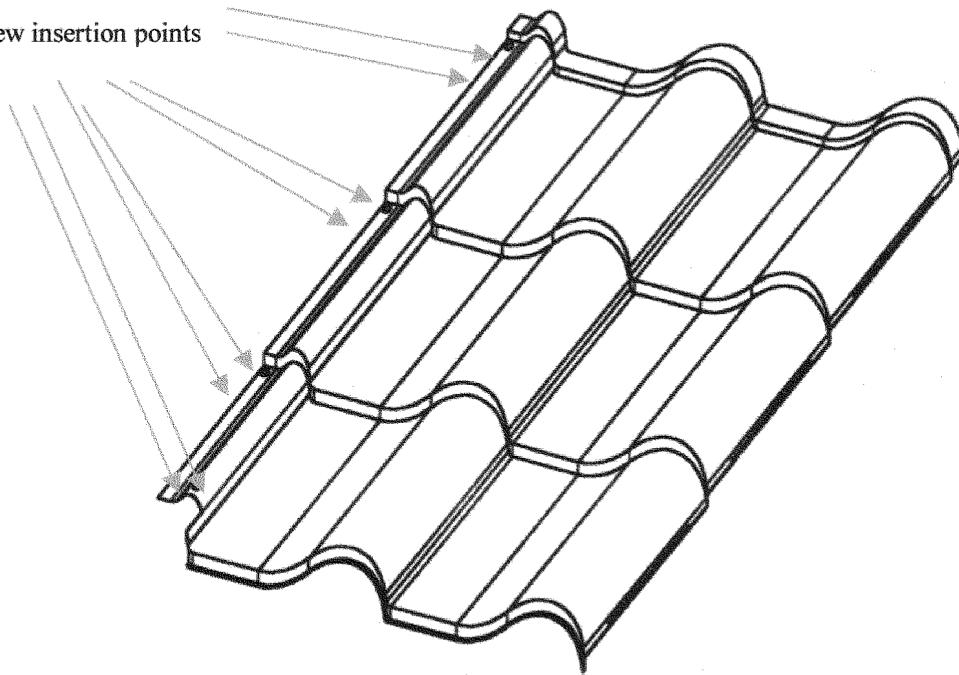

FIGURE 4—DELTA HIDDEN FASTENER TILE FASTENING PATTERN
The panels are overlapped with adjacent panels a minimum of 4.25 inches (107.9 mm), and are fastened to sheathing with the fasteners described in Section 2.2.3 using the fastener pattern illustrated in Figure 4. Fasteners must be of sufficient length to penetrate through the sheathing. Panels adjacent to the ridge are adjusted by cutting in the field.
2.3.2 Delta Hidden Fastener Tile Panels: Delta Hidden Fastener Tile panels are installed similarly to the Delta Steel Tile panels except that the panels are fastened on the left side with screws described in Section 2.2.3. Panel attachment is located as shown in Figure 4.